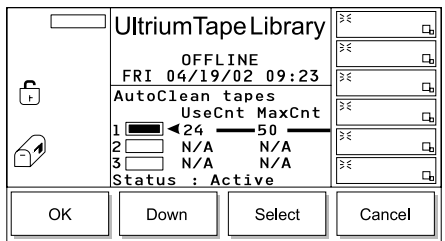

Figure 165. Export Cleaning Tape Dialog
4. Press the button below the **Export** softkey. The Export Cleaning Tape Dialog displays (see Figure 165).